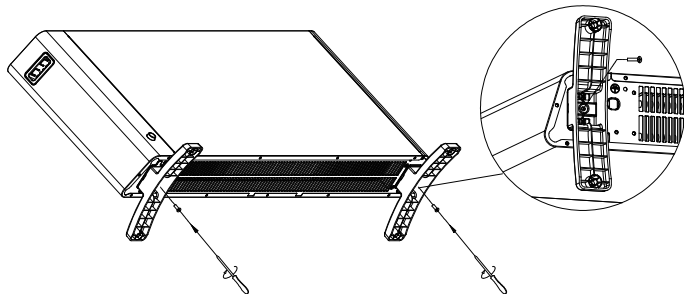

Fig.4
4. Fasten the screws on both sides of the base and tighten them securely. (Fig. 4)